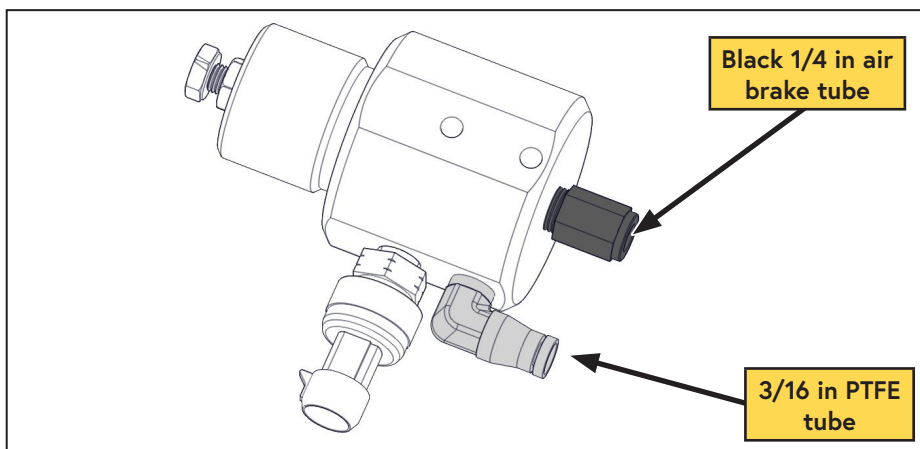

Figure 66 — Connect remote regulator tubes
- ☐ Install the black air brake tube 1/4 in PTFE tube onto the straight fitting on the remote regulator (Figure 66).
- ☐ Install the translucent 3/16 in PTFE tube onto the 90° fitting on the remote regulator (Figure 66).